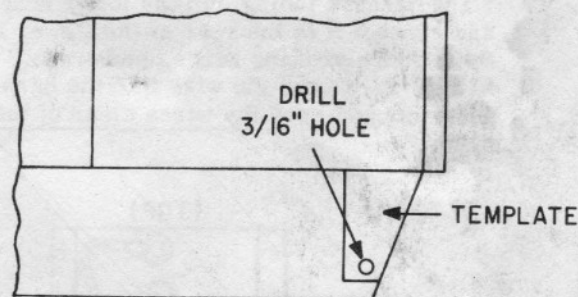

Figure 1. Left Fender
4. Locate and drill a 3/16-inch hole in the top of the left fender using the template provided as shown in Fig. 1.